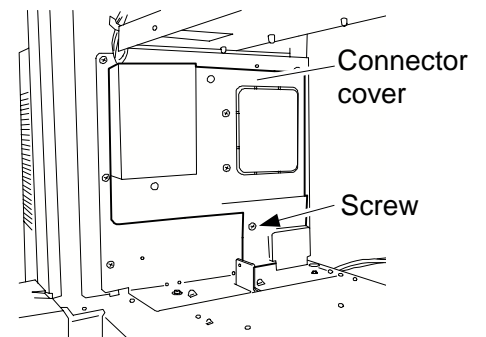

Fig. 4
- 4) Remove the screw, and detach the connector cover. (See Figure 4.)